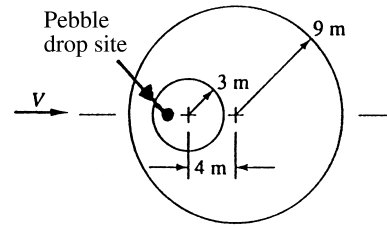

Fig. P10.7
**10.7** Pebbles dropped successively at the same point, into a water-channel flow of depth 65 cm, create two circular ripples, as in Fig. P10.7. From this information, estimate (a) the Froude number; and (b) the stream velocity.